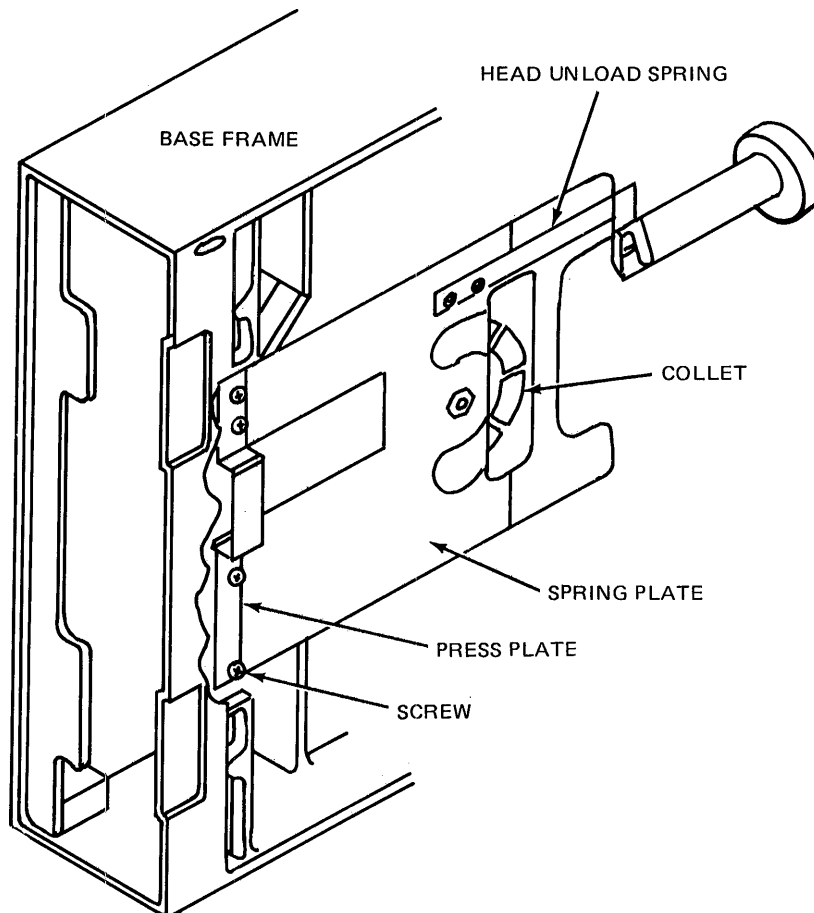

Figure 4-1 Removing the Collet Assembly
- a. Remove the two screws that fasten the head unload spring to the spring plate and remove the head unload spring (see Figure 4-1).